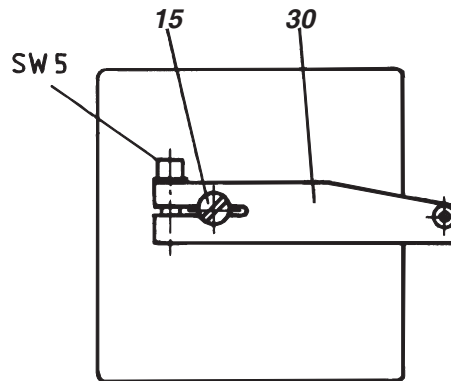

Fig. 16: Attaching feedback lever to the positioner
- e) Fasten feedback lever **30** for the rotary actuator onto shaft **15** of positioner as shown in Fig. 16.